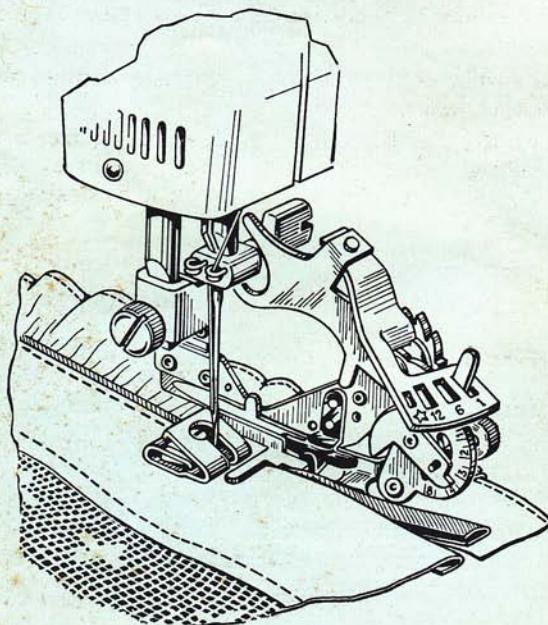

Fig. 59
- 4) Lower presser bar and sew. Fig. 59 shows the procedure described above.